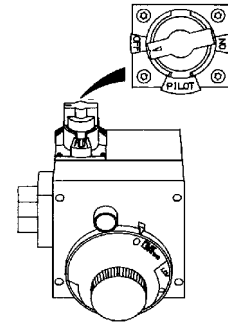
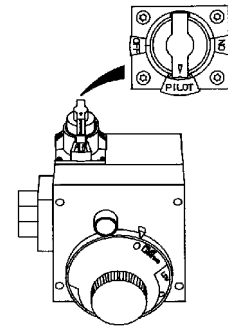
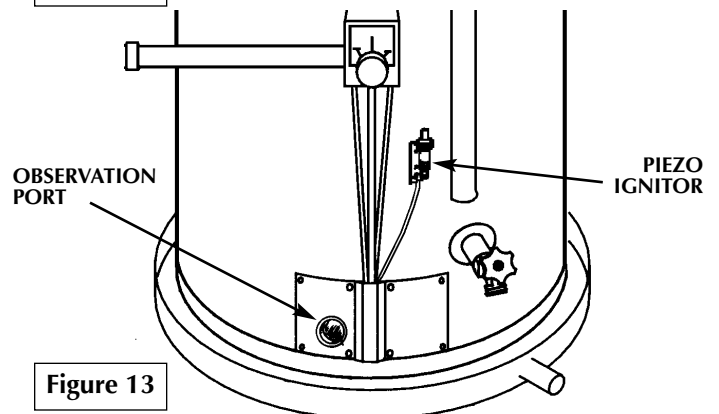

Figure 10
Figure 11
Figure 13
3. Turn gas control knob clockwise  to "OFF" position. Knob cannot be turned from "PILOT" to "OFF" unless knob is depressed slightly. **DO NOT FORCE.** (Figure 10)
4. Wait five (5) minutes to clear out any gas. If you then smell gas, **STOP!** Follow "B" in the safety information above on this label. If you don't smell gas, go to the next step.
5. If you don't smell gas, turn knob on gas control counter clockwise  to "PILOT" position. (Figure 11)
6. Pilot can be viewed through observation port. Note location of piezo ignitor. (Figure 13)
7. Depress the gas control knob all the way down. Immediately depress the piezo ignitor button until a click is heard and then release. Check to see if pilot is lit through the observation port. If pilot is not lit, continue to depress and release piezo ignitor button up to six (6) times. If pilot is still not lit, repeat steps 3 through 7. After the pilot is lit, continue to hold control knob down for about one (1) minute. Release knob and it will pop back up. Pilot should remain lit. If it goes out repeat steps 2 through 7.
- If the pilot will not stay lit after several tries, depress and turn the gas control knob clockwise  to "OFF" and call your service technician or gas supplier. (Figure 10)
2. Turn gas control knob clockwise  to "OFF" position. Knob cannot be turned from "PILOT" to "OFF" unless knob is depressed slightly. **DO NOT FORCE.** (Figure 10)